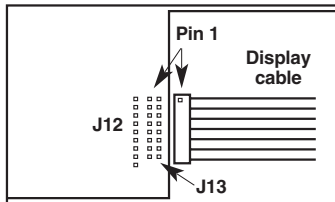

Figure E-5. The ServManager's display and keypad cables.
6. Separate the Serv unit's PCB(s) and back panel from the bottom panel, being very careful not to bend the LEDs. With the ServManager, you will have to carefully unplug the ribbon cables of the display panel (pry gently upward) and keypad (pry gently outward) from the J12 and J13 connectors respectively on the ServManager's master PCB (printed circuit board). See Figure E-5 on page 108.